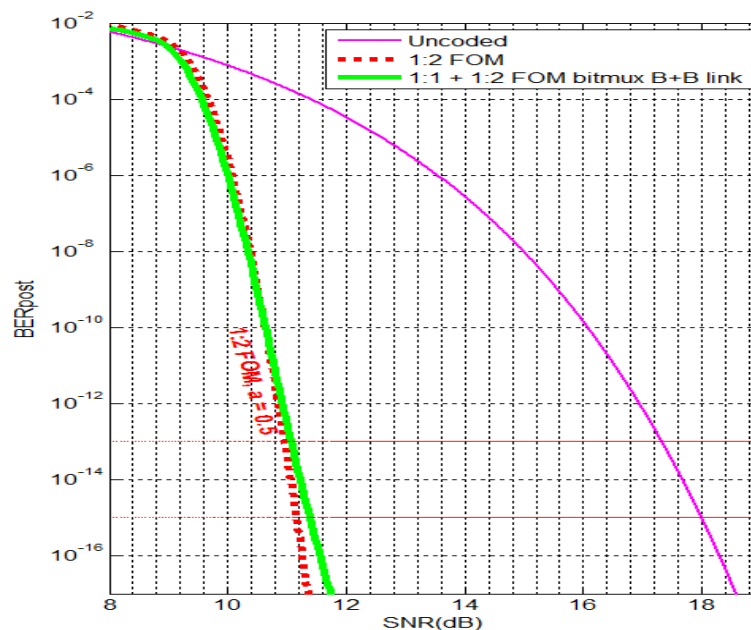

Figure 6: Burst on Optical w/ Burst(a=0.5) on Electrical links
□ For xR8, The best FEC performance for burst+burst links is 1:2 FOM(a=0.5/0.2) as in Figure 6.